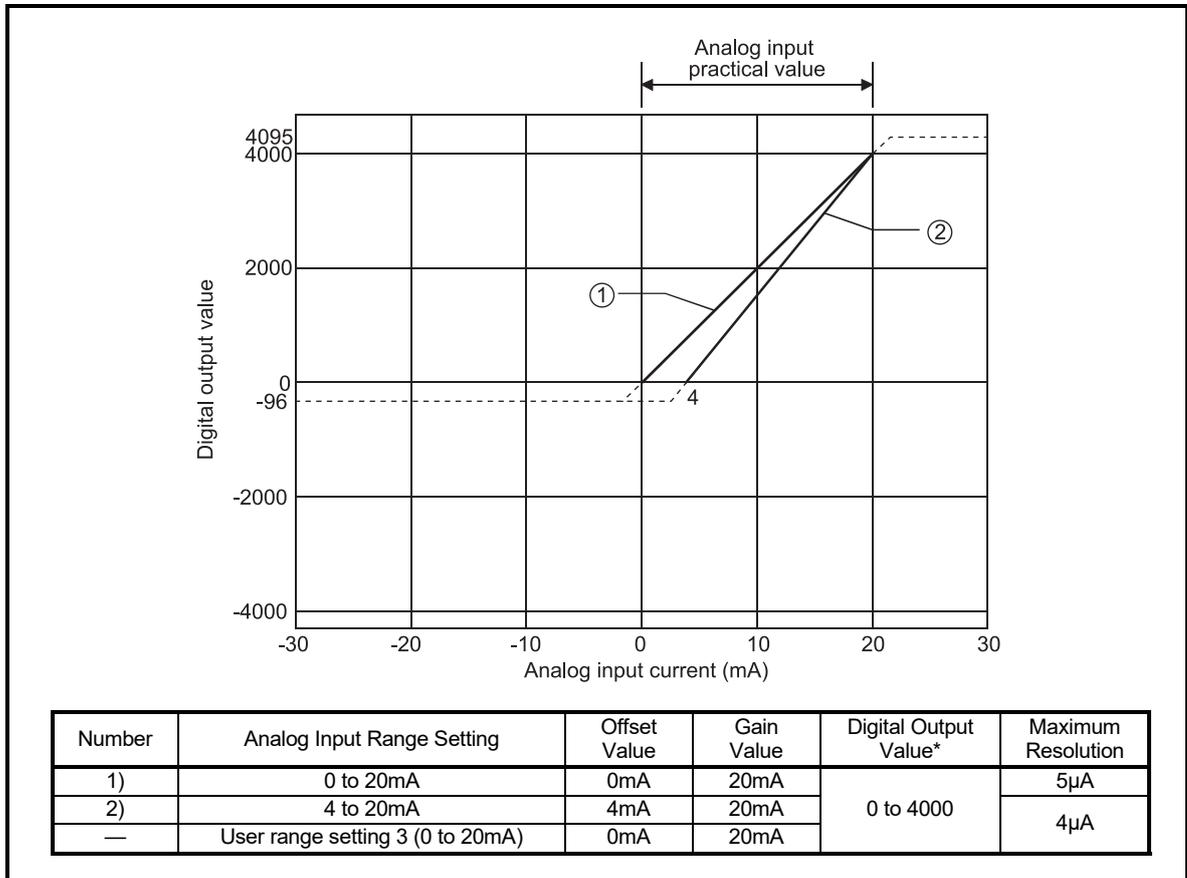

Fig. 3.2 Current Input Characteristic
(1) Do not input more than ±30mA. A breakdown may result due to heat increase.
(2) If the analog input provided corresponds to the digital output value* beyond its range, the digital output value is fixed to the maximum or minimum. <ul style="list-style-type: none"> • For 0 to 4000, the digital output value is within the range -96 to 4095.
(3) Within the analog input and digital output scopes of each input range, the maximum resolution and accuracy are within the performance specification range. Outside those scopes, however, they may not fall within the performance specification range. (Avoid using the dotted line part in Fig. 3.2.)
(4) Set the offset and gain values of the user range setting within the range satisfying the following conditions. <ul style="list-style-type: none"> (a) Setting range when user range setting 3 is selected: 0 to 20mA (b) (Gain value) > (Offset value) If you attempt to make setting outside the setting range of (a), the "RUN" LED flickers at 0.5s intervals. Set the values within the setting range. If you attempt to make setting outside the setting range of (b), the "RUN" LED flickers at 0.5s intervals. Make setting again.